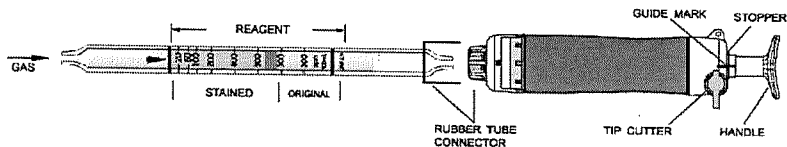

Fig.1
- ② Insert the detector tube into the aspirating pump securely as shown in Fig.1. (Arrow mark shall point to the pump.)
- ③ Align the guide marks on the shaft and stopper of the aspirating pump.
- ④ Pull the pump handle at a full stroke until it locks and wait for 1.5 minutes or until the completion of sampling is confirmed with the flow indicator of the pump. (See descriptions about the flow indicator in the instruction manual of the pump.)
- ⑤ On completion of sampling, read the scale at the maximum point of the brown stained layer.